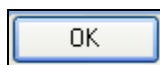

Figure 33.3.6
- To save the entry click on the **OK** button (Figure 33.3.6).